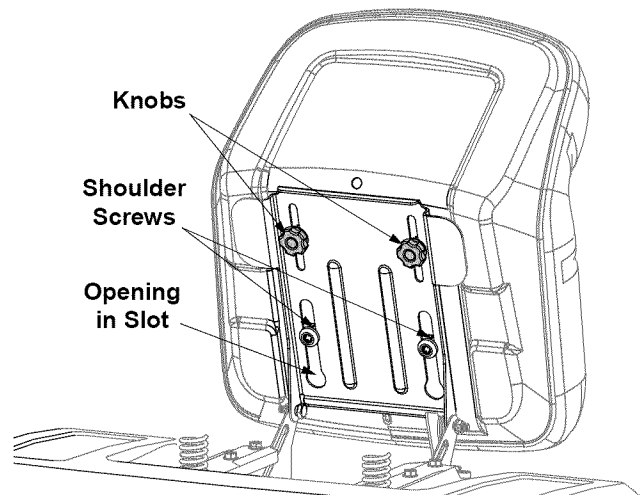

Figure 5
1. Position the shoulder screws (found on the base of the seat) inside the slot openings in the seat pivot bracket. See Figure 5.
3. Select desired position for the seat, and secure with the two knobs removed earlier. See Figure 5.